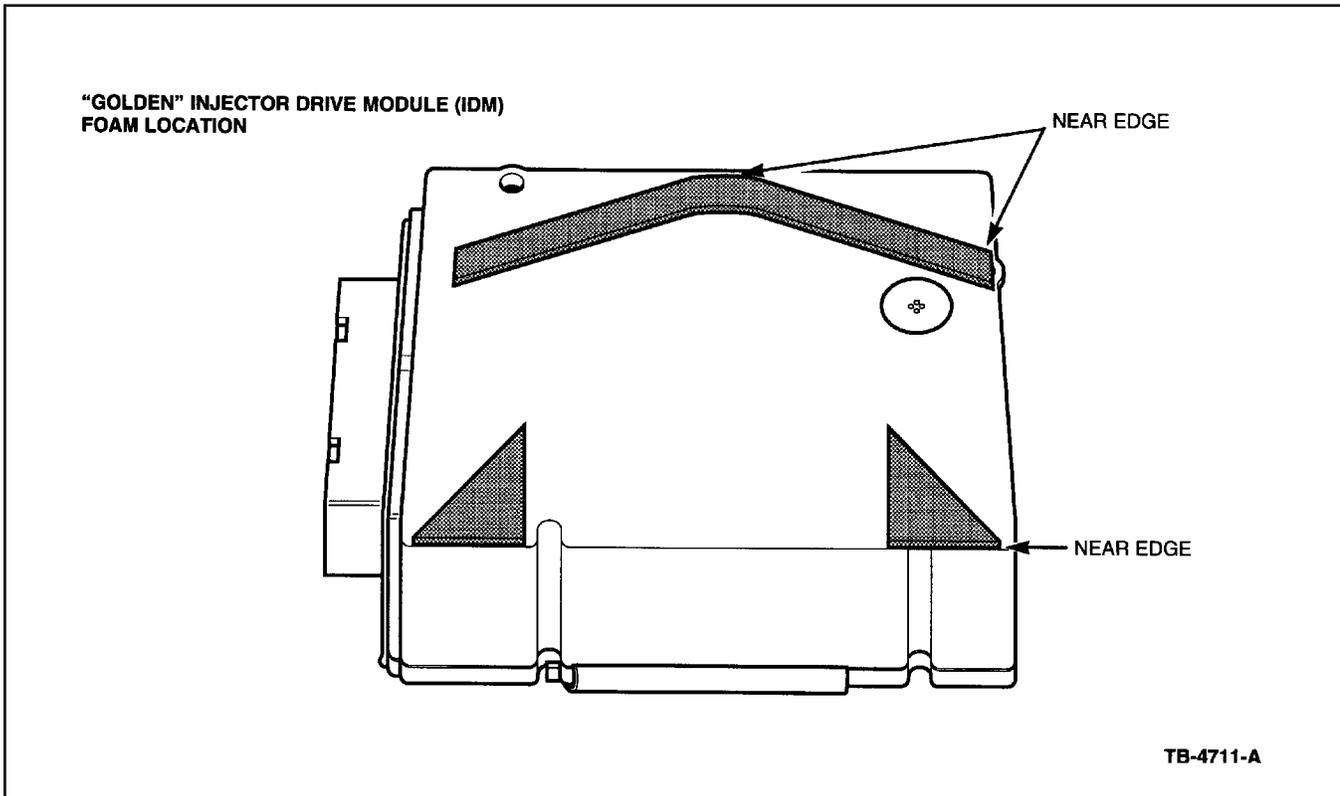

Figure 1 - Article 96-19-9
8. Install a revised IDM (F6TZ-12B599-AA) with foam installed on the IDM as shown in Figure 1. Be certain to protect the breather vent.